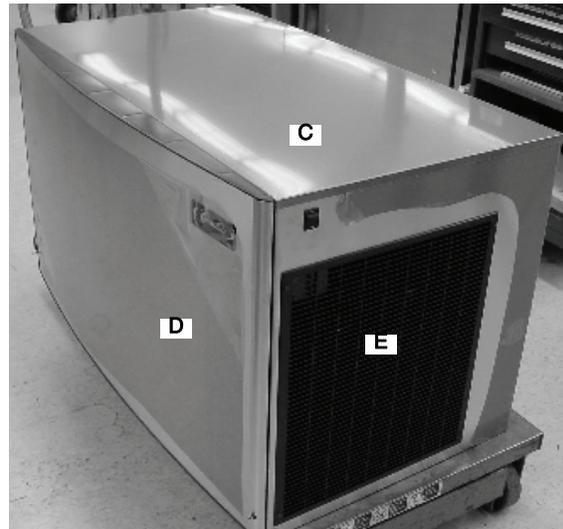

Figure 50.
66. Replace the top cover (C) and the front panel (D). Attach the louvered panel (E) with (4) black, hex head screws(FIGURE 50).